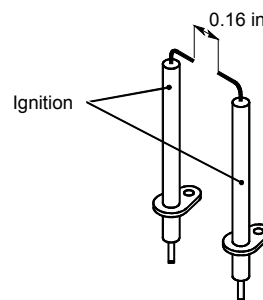

Figure 2
- 2) Check for the correct distance between the metallic edges of the ignition electrodes (see Figure 2).